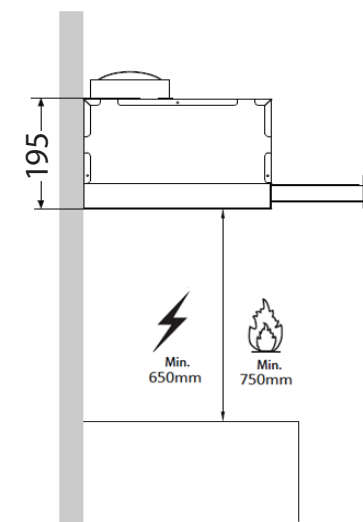

Fig. 3
2. Mark the required installation height (650 mm for electric and 750 mm for gas cooking plates) on the wall behind the cooker or the cooking plate (Fig. 3).